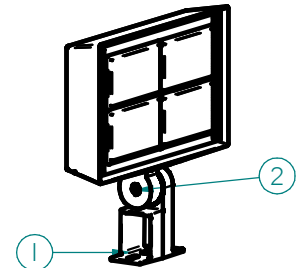

FIGURE 1
**Trunnion Mount (Fig. 1):**
- Use a minimum of two 3/8" diameter bolts or one 3/4" diameter bolt for mounting (Item 1 in Fig. 1).
- Loosen the bolt (Item 2 in Fig. 1) on the knuckle using a 3/8" hex key to allow the fixture to be aimed up or down.
- Once the fixture is aimed at the desired target, tighten the bolt (Item 3 in Fig. 1) on the knuckle.